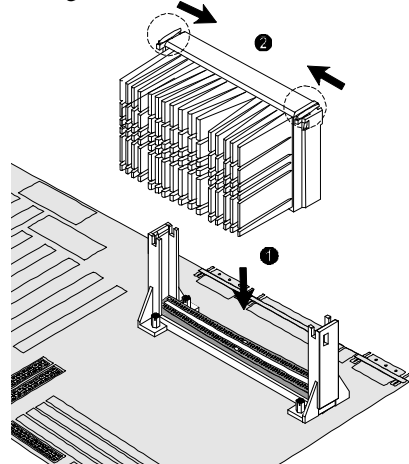

Fig. 3
1. Slid the CPU down into the retention mechanism and seat it firmly into the slot. (Fig. 3 -- ①) Make sure the CPU is correctly oriented.
2. Lock the CPU in place by pushing the two tabs on the CPU inwards. (Fig. 3 -- ②)